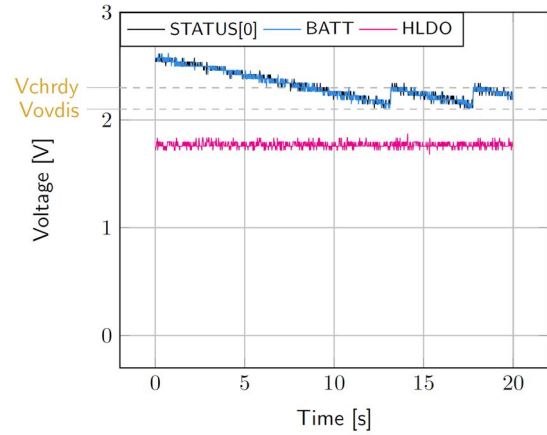

Figure 6: Switching from **SRC** to the primary battery
- **BATT**: Voltage decreases as the system consumes the power accumulated in the storage element. The voltage reaches V_{OVDIS} and then rises again to V_{CHRDRY} as it is recharged from the primary battery (see Figure 6).
- **STATUS[0]**: Never de-asserted as the LDOs are still functional (see Figure 6).
- **HVOUT**: Stable and not affected by switching on the primary battery (see Figure 6).